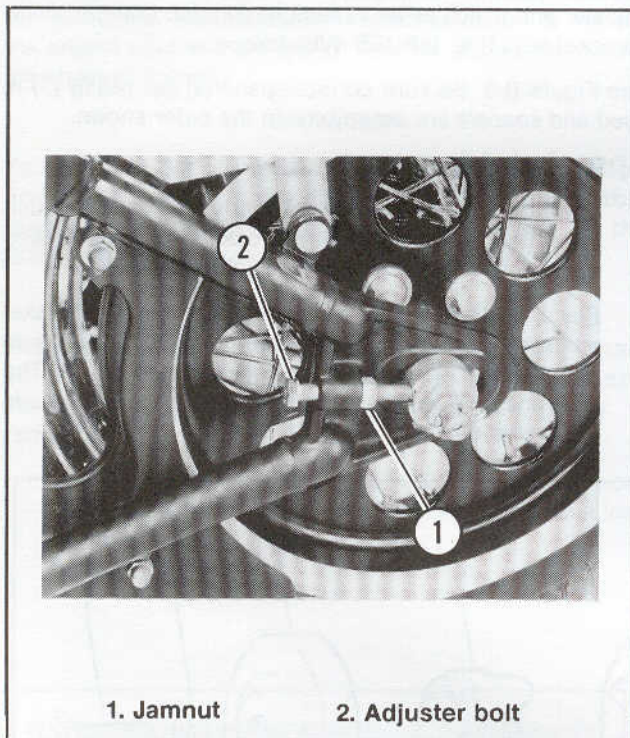

Figure 6-4. Axle Adjuster - FLSTC/F, FXSTC
1. See Figures 6-4, 6-5. DO NOT LOOSEN AXLE NUT. Loosen jamnut (1).